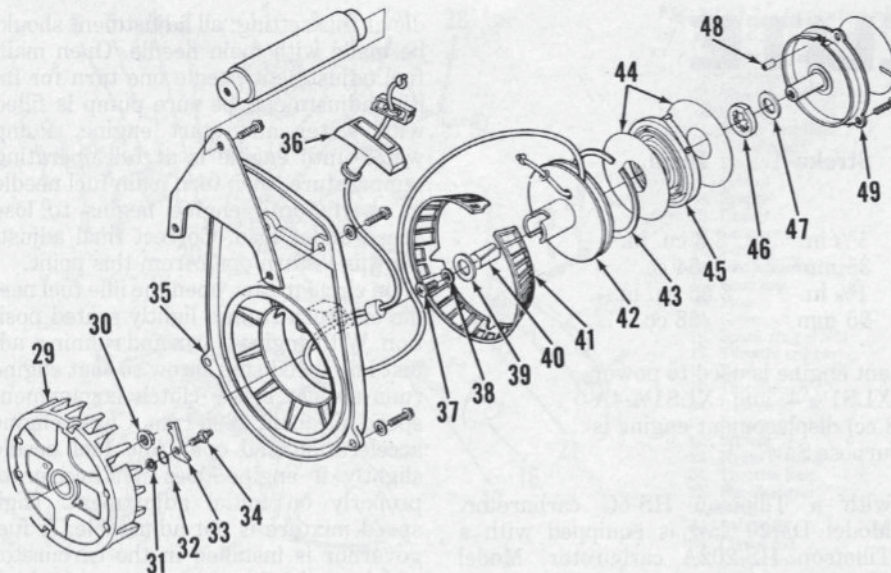

Fig. HL42-7—Exploded view of rewind starter.
REWIND STARTER. Refer to Fig. HL42-7 for an exploded view of starter assembly. To disassemble starter, hold cover (49) and unscrew retaining screws. Allow cover to turn until spring tension is relieved and remove cover. Note: If outer hook of spring catches on
Do not oil spring. Install washer (47), inner spring shield (44), rewind spring (45) and spring lock (46) in cover with spring wound as shown in Fig. HL42-8. Install outer spring shield (44—Fig. HL42-7) and snap ring (43). Insert bushing (40) in rope pulley (42). Slide pulley onto post in cover and check to be sure splines on pulley engage splines in spring lock. Install and tighten screw (37) to 45 in.-lbs. Wind rope around pulley in clockwise direction as viewed from screw end of pulley. Set cover in housing. Pull rope handle and then allow rope to rewind so that starter pawls will be forced open and pulley hub can slide between them into place. Turn cover clockwise 3 or 4 turns to preload rewind spring; never turn cover more than 5 turns against spring tension. Snap plastic screen into place and install cover screws. Check starter operation.